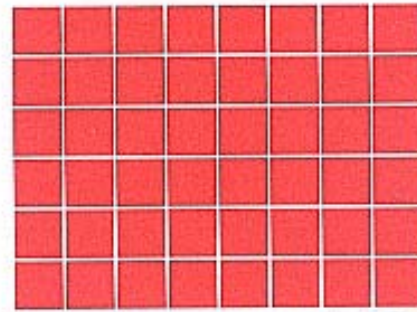

Figure 2A
Figure 2A makes use of (48) 12" x 12" heaters